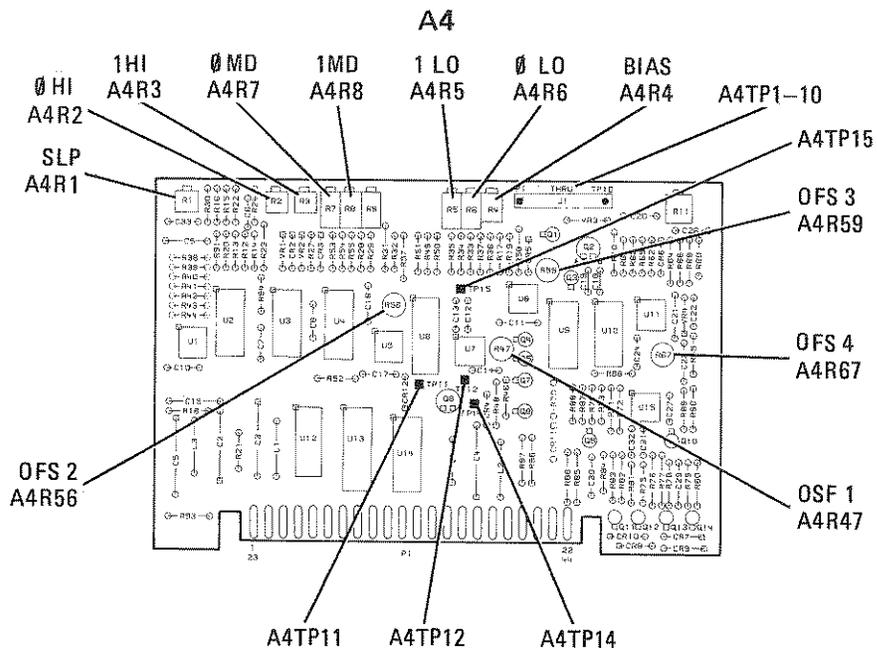

Figure 5-20. ALC Adjustments Location
2. Float the ground on the digital voltmeter and measure the voltage between A4TP12 and A4TP14 (Figure 5-20). Adjust A4R47 OFS 1 (offset 1) for  $0.000V \pm 0.001V$ .
2. Remove A5 FM Driver board. Obtain best trace continuity at 2.05 GHz by making fine adjustments as follows. Set RF power to 0 dBm and adjust A4R5 (1 LO), to +9 dBm and adjust A4R8 (1 MD), and to +13 dBm and adjust A4R3 (1 HI). (See Figure 5-20.)